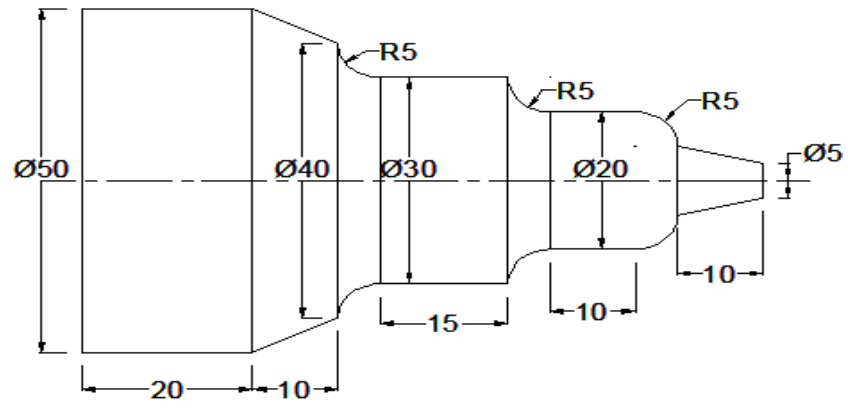

Figure 4 [Q:4 (a) OR]
- Q. 4** (a) Prepare part program for finishing cut of component shown in figure:4 **07**